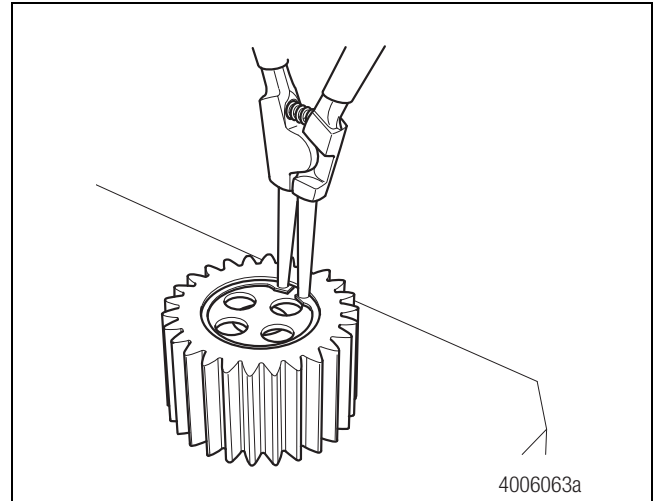
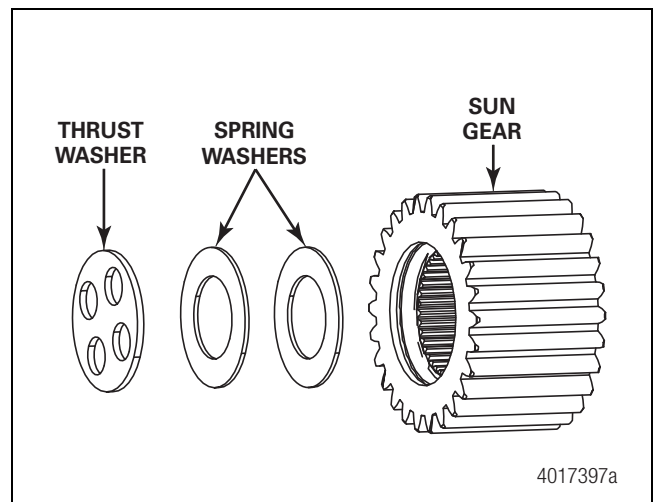

Figure 4.5
Figure 4.6
- If it is necessary to disassemble the sun gear assembly to inspect or replace parts, use appropriate snap ring pliers to remove the snap ring then remove the thrust washer and two spring washers. Figure 4.5 and Figure 4.6.